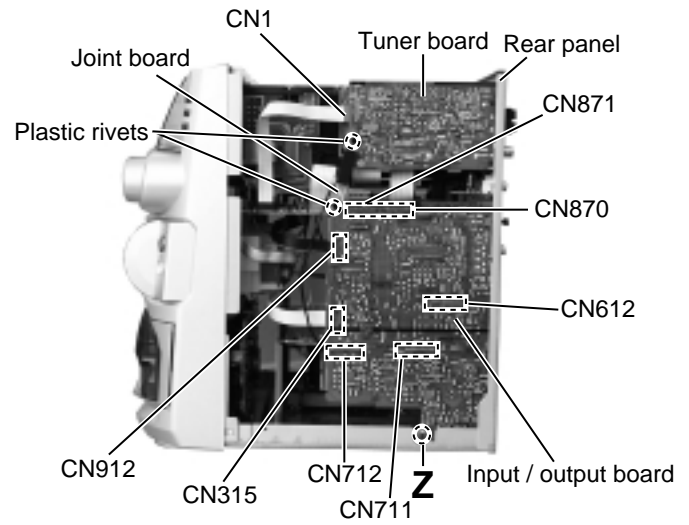

Fig.21
(See Fig.21 and 22)
1. Remove the input / output board (Refer to Fig.21 and 22).